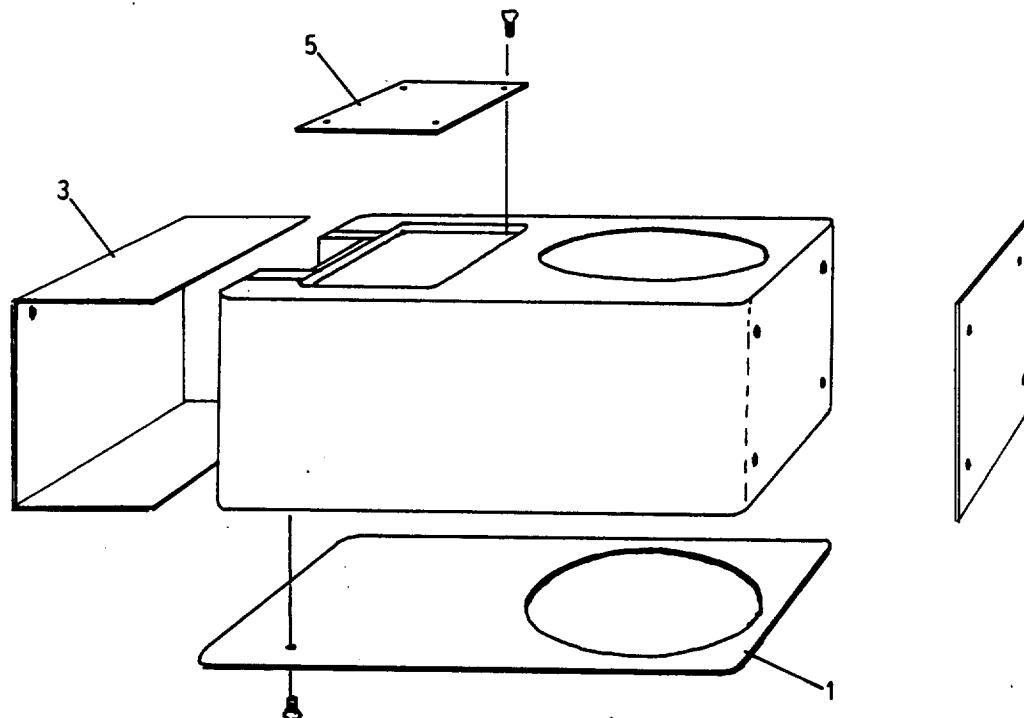

Fig. 3
- o Open cover 1 or 5 (see fig 3) and grease the gear. Use a thin brush so that the grease reaches down in the cogs. Rotate the outgoing axis so that the whole gear is reached.
- o Open cover 3 (see fig 3). Refill new grease.